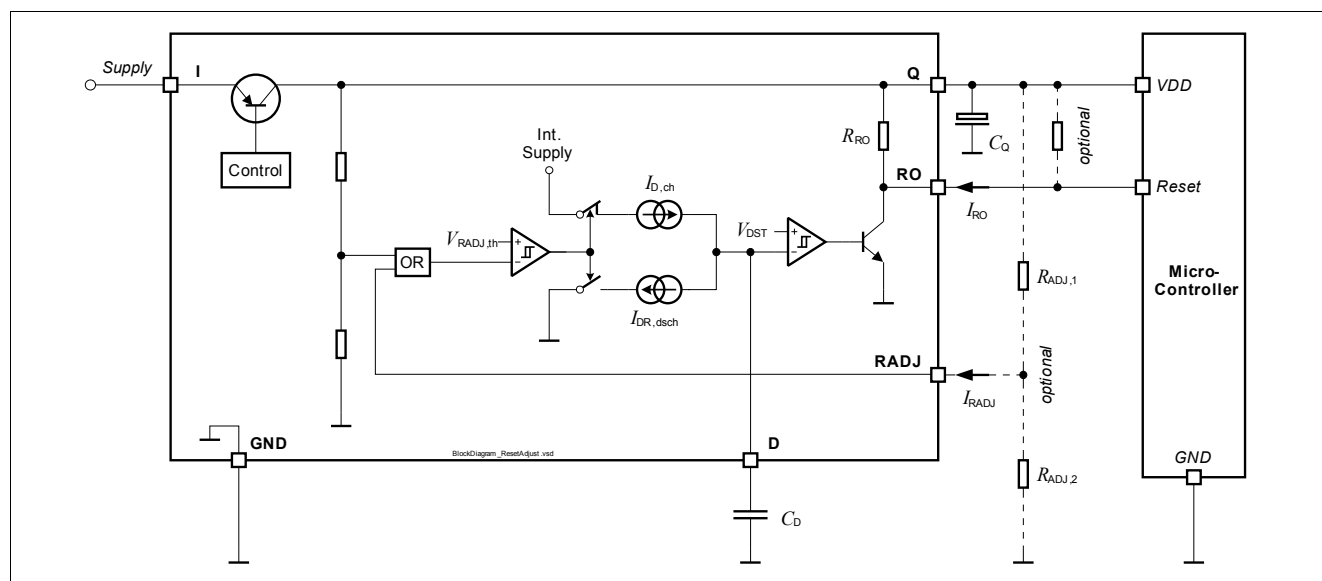

Figure 7 Block diagram reset circuit
- $R_{ADJ,1}$, $R_{ADJ,2}$: Resistors of the external voltage divider, see Figure 7.
$V_I = 13.5\text{ V}$, $T_j = -40^\circ\text{C}$ to $+150^\circ\text{C}$, all voltages with respect to ground, direction of currents as shown in Figure 7 (unless otherwise specified)
$V_I = 13.5 \text{ V}$, $T_j = -40^\circ\text{C}$ to $+150^\circ\text{C}$, all voltages with respect to ground, direction of currents as shown in Figure 7 (unless otherwise specified)